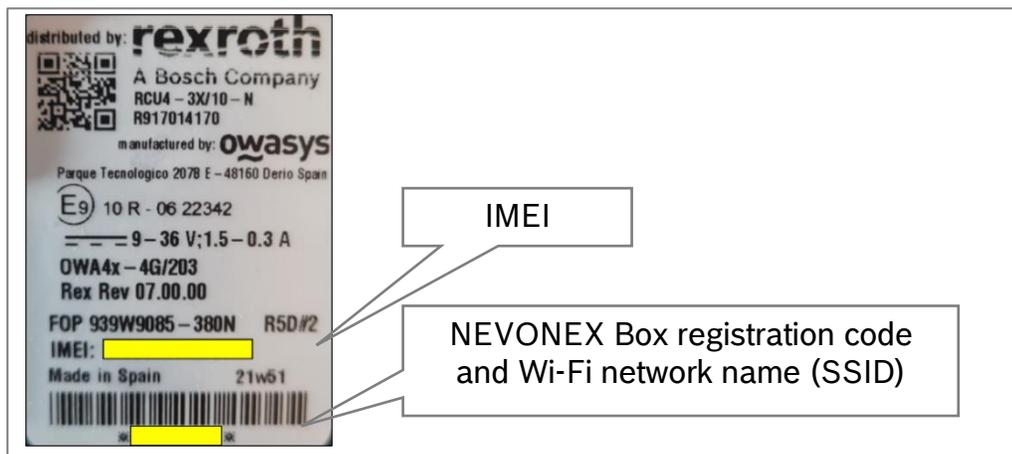

Figure 6: NEVONEX Box registration code and IMEI
- After starting the NEVONEX Cockpit app on the tablet, the button "Please go to the Wi-Fi settings of your tablet" can be used to switch directly to the setup of the Wi-Fi connection. The Wi-Fi password is the respective IMEI of the Rexroth RCU. The IMEI is shown on the housing of the RCU (see Figure 6: NEVONEX Box registration code and IMEI).